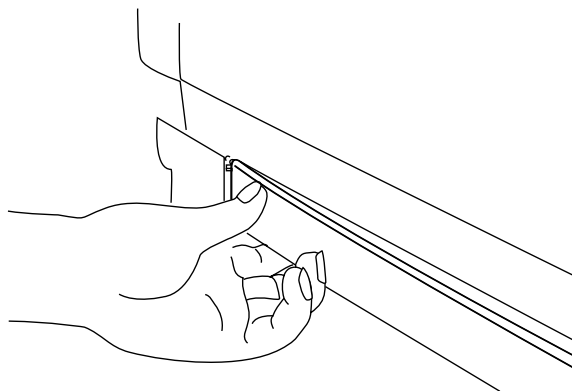

Fig. 4.9 *Remove Flap from Printer Back*
1. The legal cassette is longer than the printer and extends beyond the rear of the printer when in place. To install the legal cassette, remove the flap from the back of the printer by grasping it in the middle. Flex the flap to disengage it from the holes (fig. 4.9).